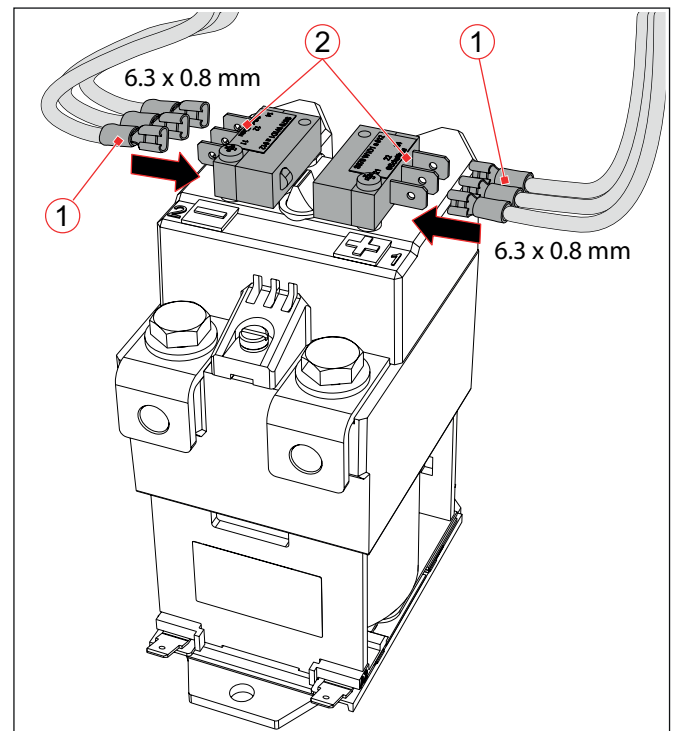
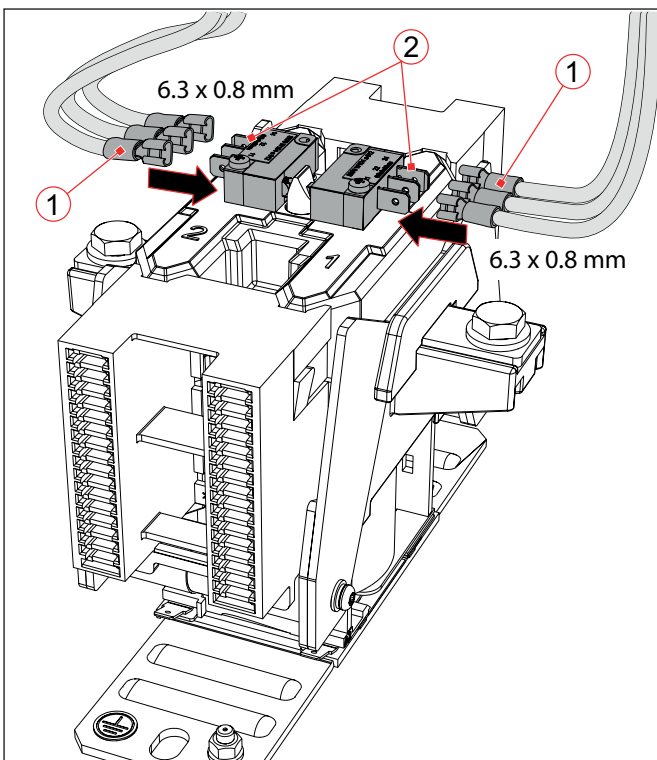

Fig. 20: C195 S/, C195 T/: Connecting the S870 auxiliary switches (the figure shows C195 S/, the procedure is identical for C195 T/)
Fig. 18: C195 X/: Connecting the S870 auxiliary switches
- ▶ Move and route the control wires and receptacles only in the direction of plugging, see Fig. 18 to Fig. 20.
- ▶ Plug the pre-assembled control wires with the receptacles (1) to the terminals (2) of the auxiliary switches.